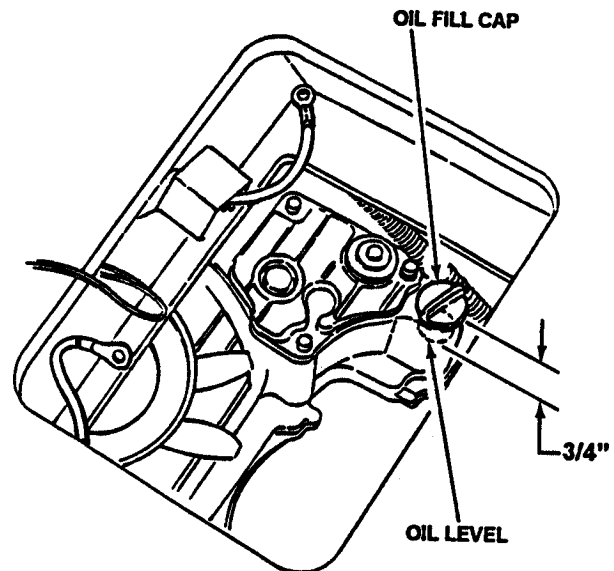

FIGURE 17
6. Clean debris off the Oil Fill Cap and surrounding area to prevent dirt from entering when removing the Fill Cap. See Figure 17.